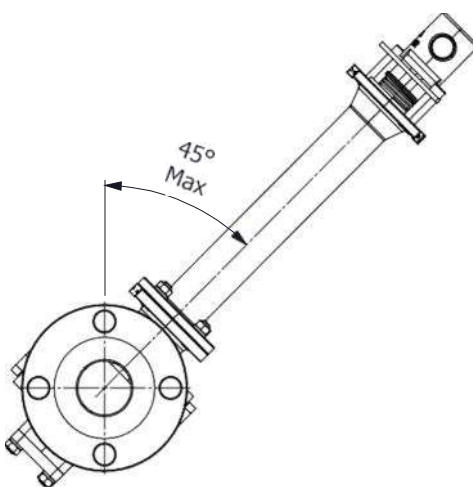

Figure 2. Valve tilting limitations
2.1.2. The function of the bonnet of a cryogenic valve is to allow proper heat transfer, and a steep temperature gradient along the bonnet's length between cryogenic temperatures as low as -196°C / -320°F and a temperature of around -10°C / 14°F at the cryogenic ISO top pad. This feature allows the soft parts of the valve stem seal to remain ductile. According to BS 6364 standard a 10 inch (250 mm) cryogenic bonnet shall be installed in the vertical position or inclined up to 45° from the vertical axis as shown in figure 2.